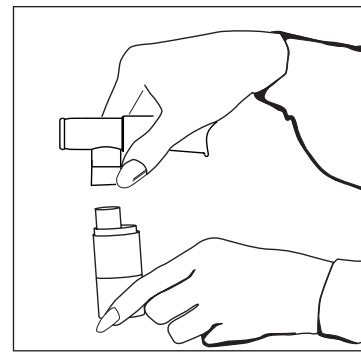

Figure 5/Figura 5
- Assemble mouthpiece and t-piece (if applicable) and insert into the top of the nebulizer cap **Figure 5**. If using an aerosol mask, insert the bottom part of the mask directly into the top of the nebulizer cap.